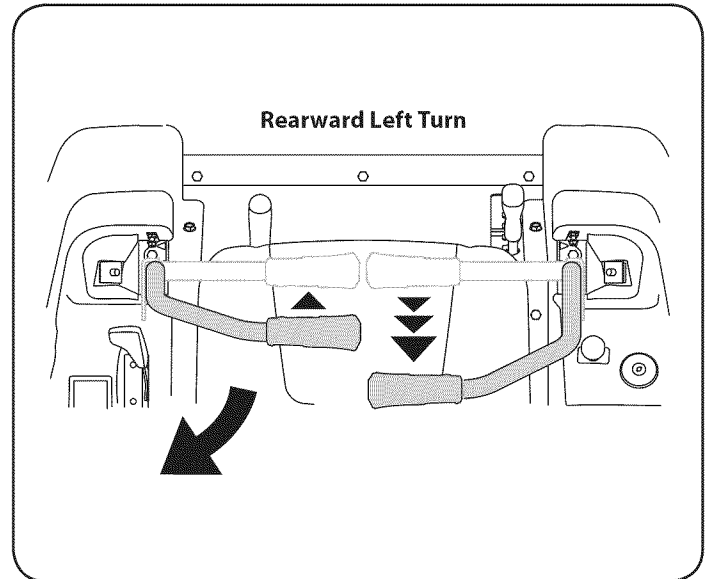

Figure 18
2. To turn to the left while traveling in reverse, move the left drive control lever forward of the right lever. See Figure 18.